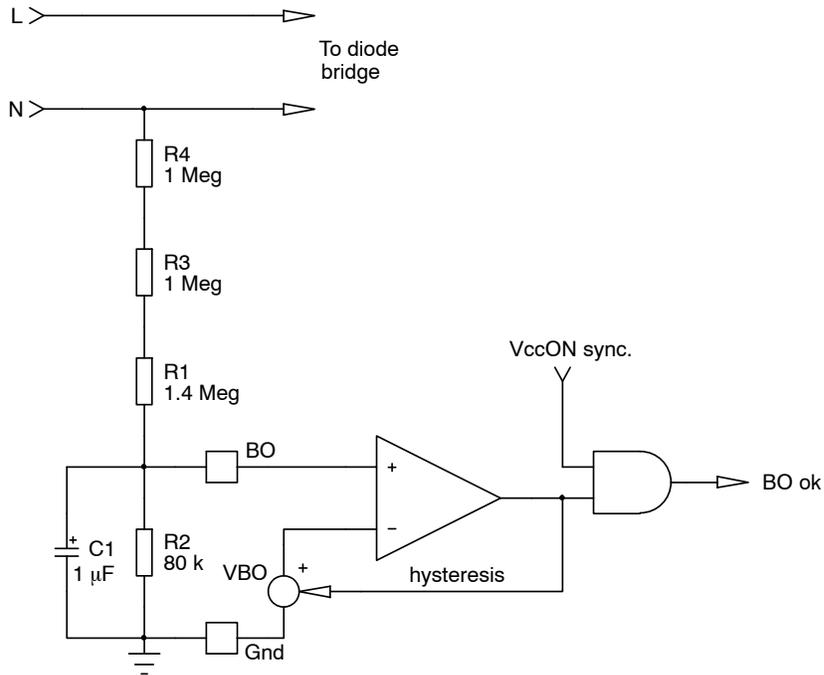

Figure 51. A simple comparator monitors the input voltage via a single pin. When this voltage is too low, the pulses are stopped and the V_{CC} hiccups.
Brown-out (BO) is a means to protect the converter against an erratic behavior that can occur at the lowest input voltage level. By safely stopping the output pulses when the mains is below a predetermined value, the converter prevents thermal runaway, greatly improving its robustness. Brown-out protection is another way to avoid an erratic hiccup mode when too low of an input voltage limits the power delivery. Some applications, such as printer power supplies, forbid this kind of operations and impose a clean stop. In that case, brown-out detection/protection is the way to go. Figure 51 shows a simplified implementation in the controller.